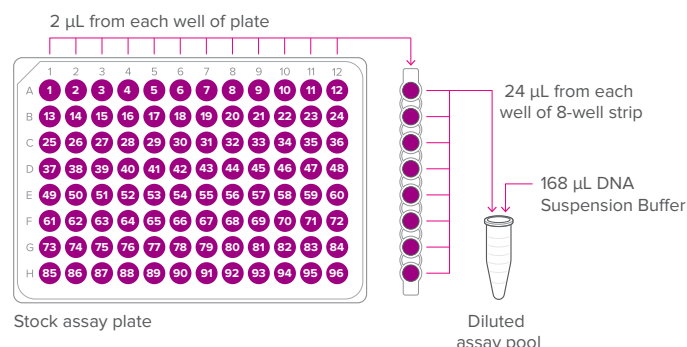

Figure 1. Example dilution of a 96-assay pool
- In a DNA-free hood, dilute each pool of stock assays with DNA Suspension Buffer as calculated below. An example using the recommended volume of 2 μL for each assay from a single 96-assay pool is shown in Figure 1.